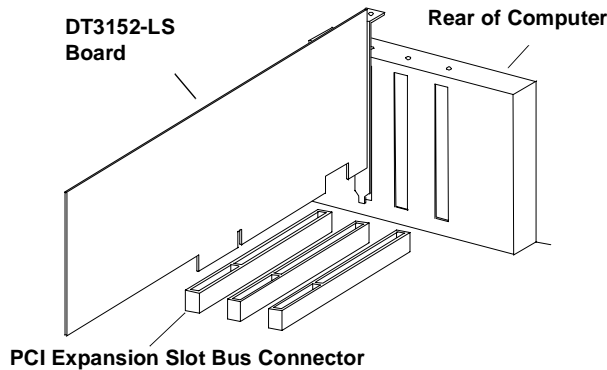

Figure 3: Inserting the DT3152-LS Board in the Computer
4. Position the board so that the cable connectors are facing the rear of the computer, as shown in Figure 3.